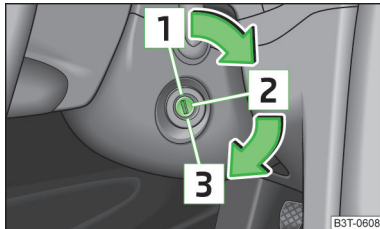

Fig. 133
- When the vehicle is travelling with the engine off, the ignition key must always be in position 2 » Fig. 133 on page 136 (ignition switched on). This position is confirmed by the appearance of certain indicator lamps in the instrument cluster.
- The starter must only be operated when the engine is not running and the vehicle is at a standstill. The starter or engine can be damaged if the starter is activated when the engine is running 3 » Fig. 133 on page 136.
Petrol engines » Fig. 133
Diesel engines » Fig. 133
If the **steering is locked** and the key cannot be turned or can only be turned with difficulty to position **2** » Fig. 133, move the steering wheel back and forth and the steering lock will unlock.
- Switch on the ignition **2** » Fig. 133 on page 136.
Switch off the engine by turning the ignition key to position **1** » Fig. 133 on page 136.